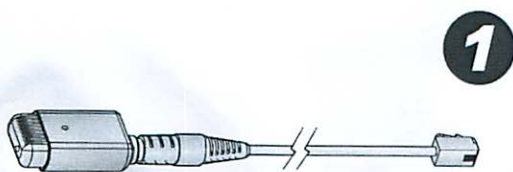

Figure 1
1. Connect the Receiver Head into the 3.5 stereo jack on the Converter Unit (Figure 1).